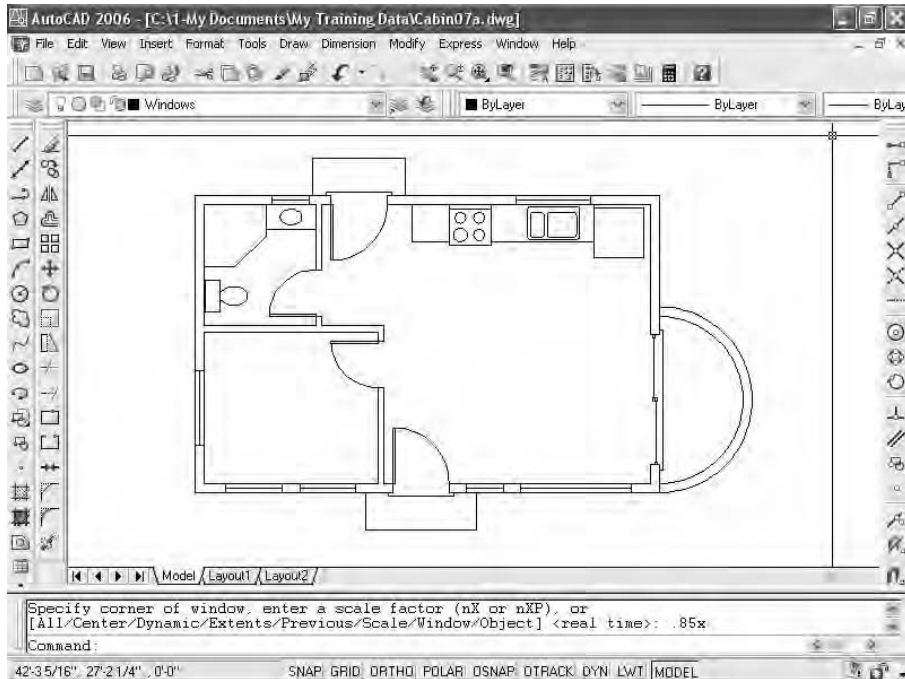

FIGURE 7.31: Zooming to .85x after zooming to Extents
8. Type `z` `↓` `.85x` `↓` to zoom out a little from the Extents view, so all objects are set in slightly from the edge of the drawing area (see Figure 7.31).